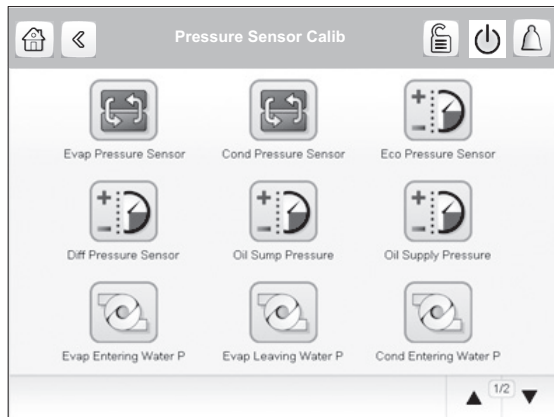

Fig. 38 — Pressure Sensor Calib Screen, Page 1
1. Go to Main Menu → Maintenance Menu → Pressure Sensor Calib. See Fig. 38 and 39.